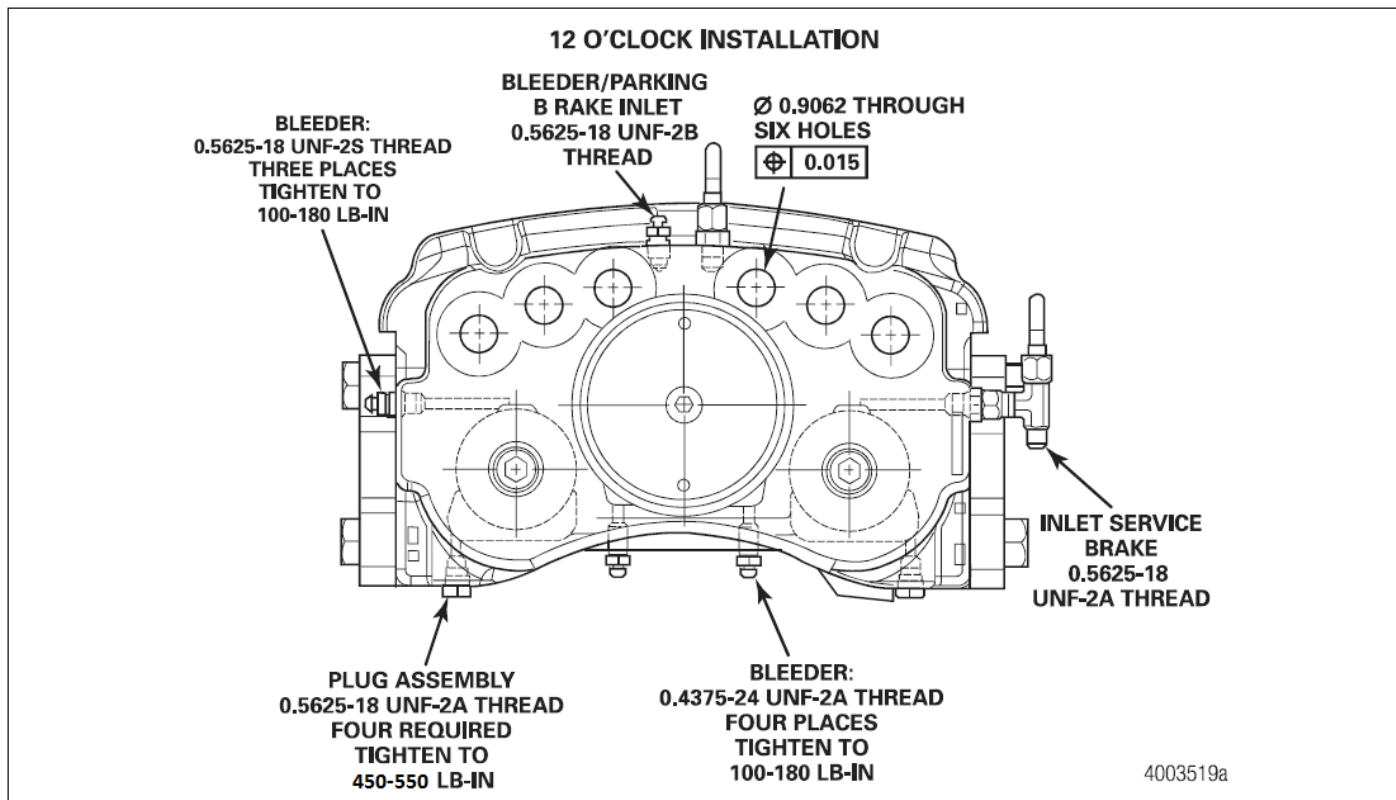
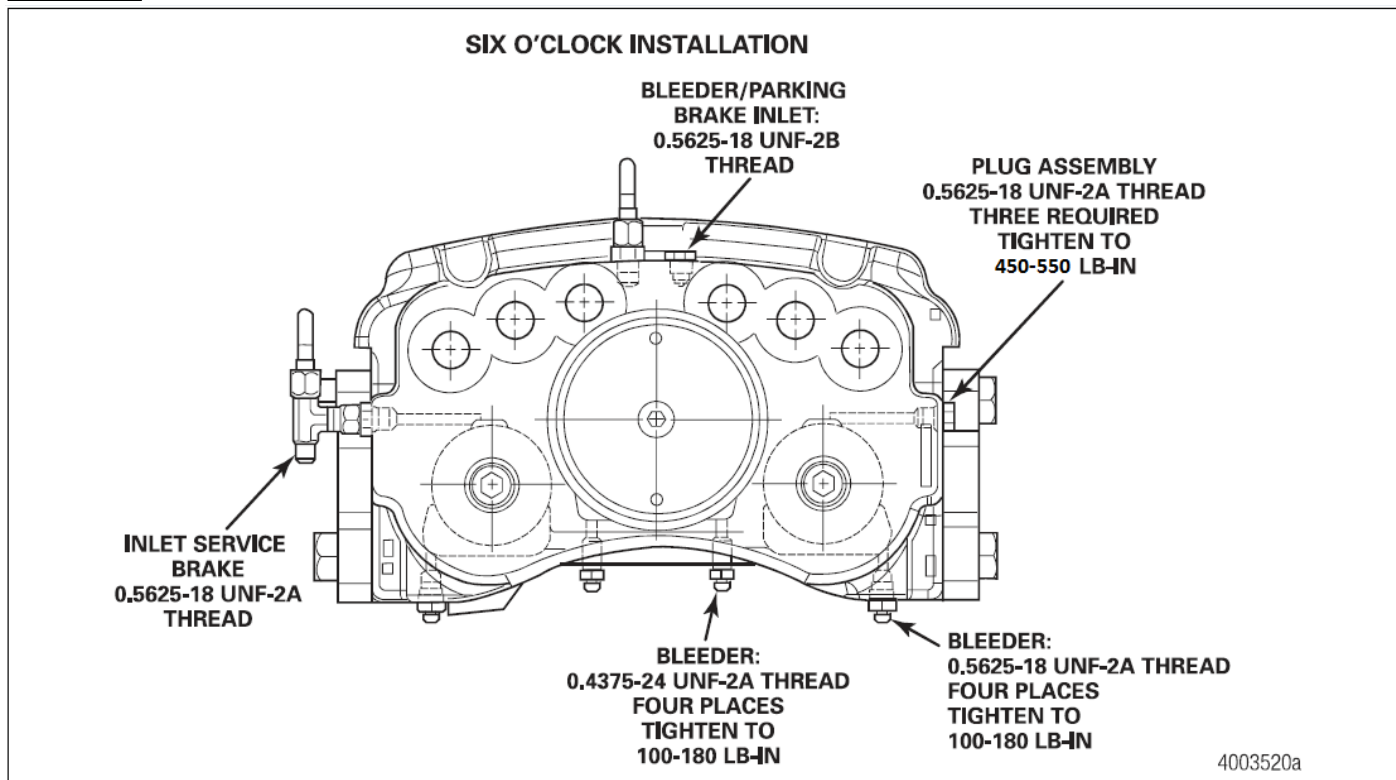

Figure 5.14
Figure 5.15
33. Install the fittings, bleeder screws and plugs into the housing subassemblies according to 12 o'clock or 6 o'clock installation requirements. Figure 5.14 and Figure 5.15.
NOTE: The HDBC 4225 dry disc brake is designed to bleed correctly when mounted at the 12 o'clock or six o'clock positions when configured as shown in figure 5.14 and Figure 5.15.